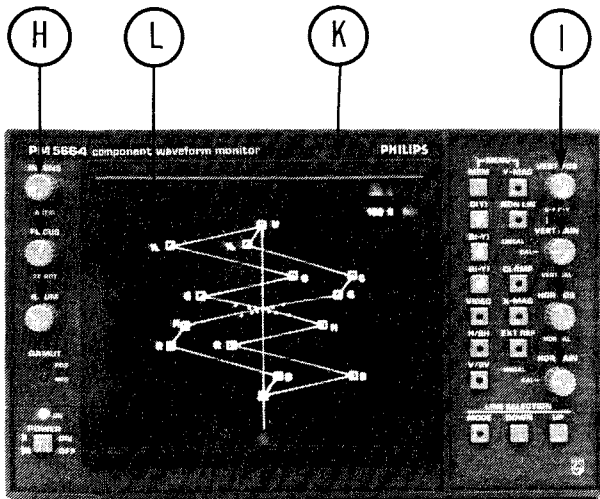
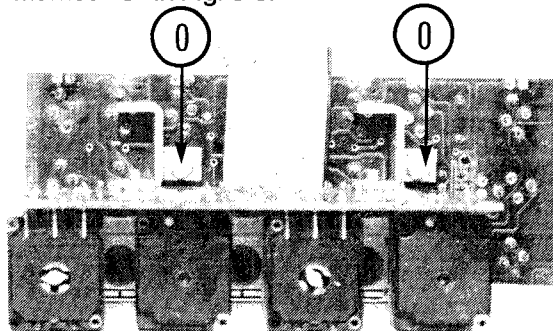

Fig. 3-6 Front of instrument.
Fig. 3-8 Keyboard, solder side.
- Remove the three knobs "H" (see Fig. 3-6).
- For full access to the Keyboard, remove the 4 knobs marked "I" in Fig. 3-6 and the two screws marked "O" in Fig. 3-8.
- Remove the window marked "K" and the grey filter marked "L" in Fig. 3-6.